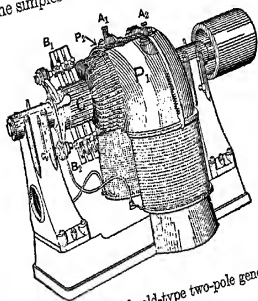
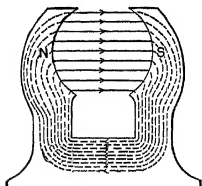
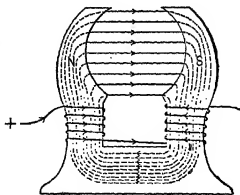

FIG. 181. Simple old-type two-pole generator.
FIG. 185. Diagram of the magnetic lines in a two-pole generator.
FIG. 187. The current in the coils produces the magnetic field.
97. **Voltage Generated in Armature Wires.** Fig. 181 represents the simplest form of two-pole direct-current gen-
The magnetic field of the 2-pole motor in Fig. 181 is merely the field of a bar magnet bent into a horseshoe as in Fig. 185. Note that here, too, the lines come out of the north pole and enter the south pole, go through the yoke and back again to the north pole.
It will be noted that around the pole pieces  $P_1$  and  $P_2$  of Fig. 181, there are wound coils of wire. These coils supply the magnetizing
In order to produce a field as in Fig. 185, which is the field for the machine of Fig. 181, we merely have to wind coils around the pole pieces and send a current through the coils in the proper direction, as in Fig. 187.